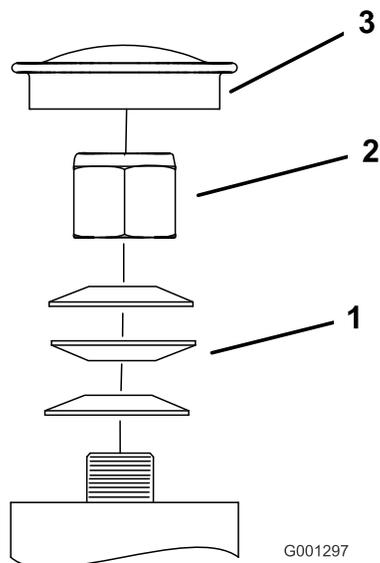

Figure 69
3. Remove the dust cap from the caster and tighten the locknut (Figure 69).
- Tighten the locknut until the spring washers are flat and then back off a 1/4 turn to properly set the pre-load on the bearings (Figure 69).
Important: Make sure that the spring washers are installed correctly as shown in Figure 69.
- Install the dust cap (Figure 69).